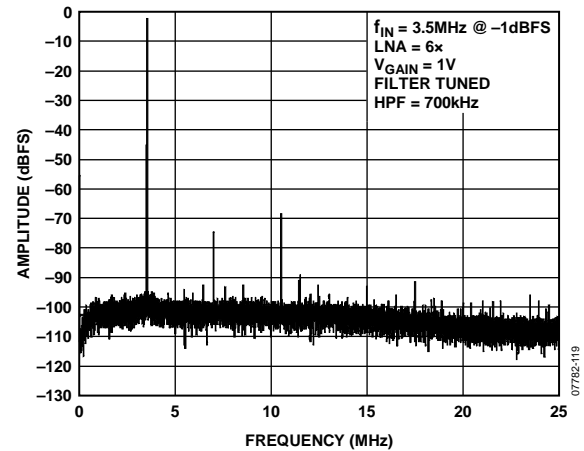

Figure 17. Typical FFT, AD9272/AD9273
3. Click the disk icon within the **Graph** window to save the performance plot. See Figure 17 for an example.